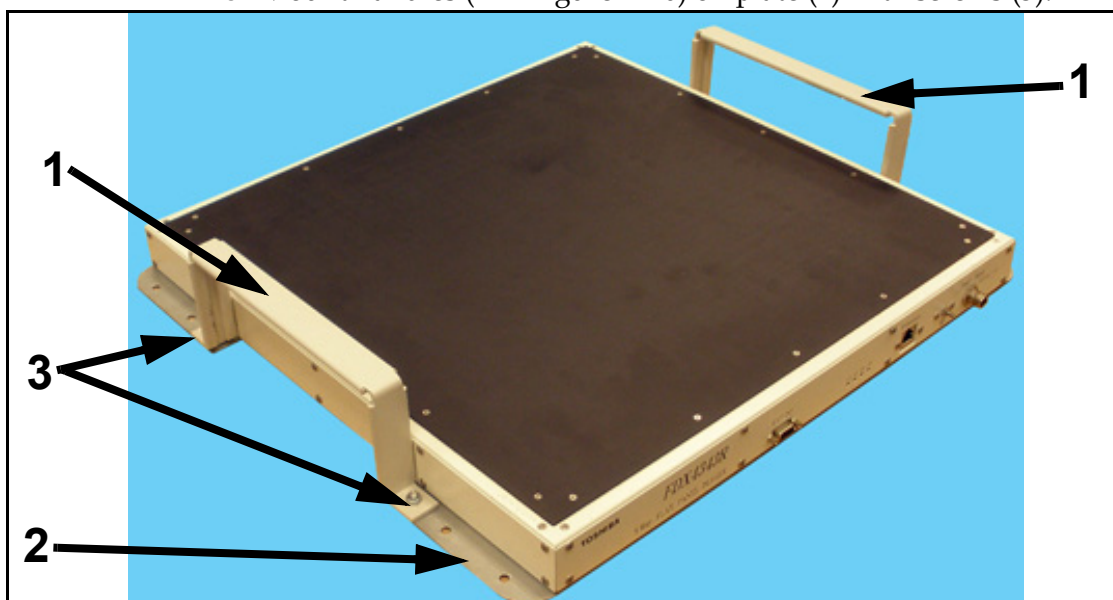

Figure E-10. Mounting Handles on Receptor
10 Mount handles (1 in Figure E-10) on plate (2) with screws (3).